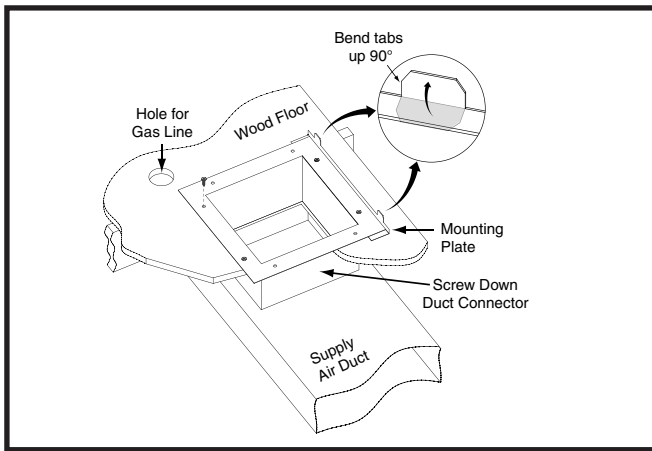

Figure 18. Screw-Down Duct Connector
1. Bend both tabs (Figure 18) on the mounting plate up 90°.
3. Locate the screw down duct connector over the duct and carefully lower it into place. See Figure 18.